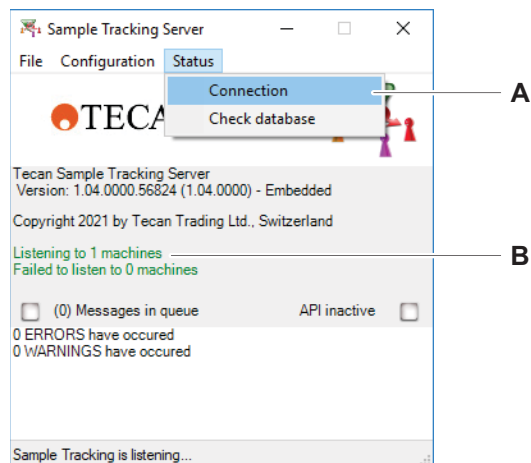
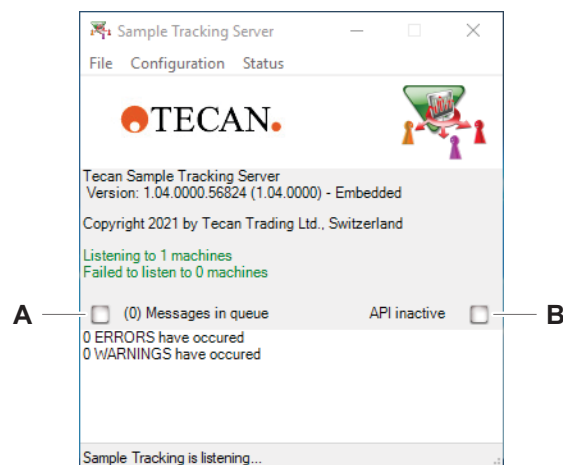

Fig. 6-10 Status display of connected machines
Fig. 6-11 Status display of connected machines
Messages in queue indicator (A) Fig. 6-11, Fig. 6-10:
API active/inactive indicator (B) Fig. 6-11, Fig. 6-10: